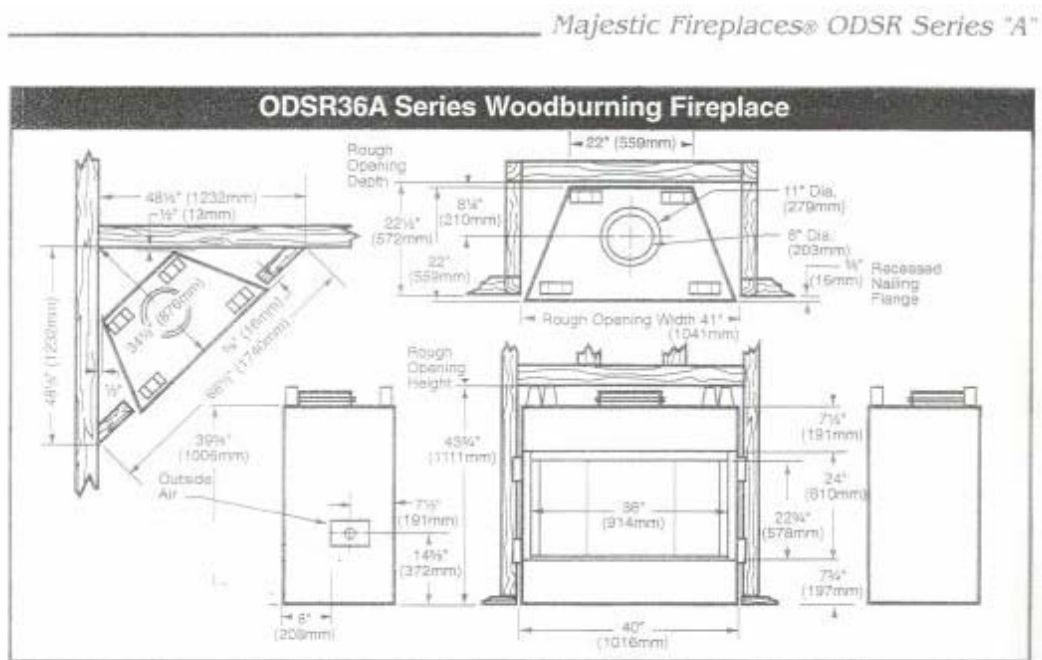
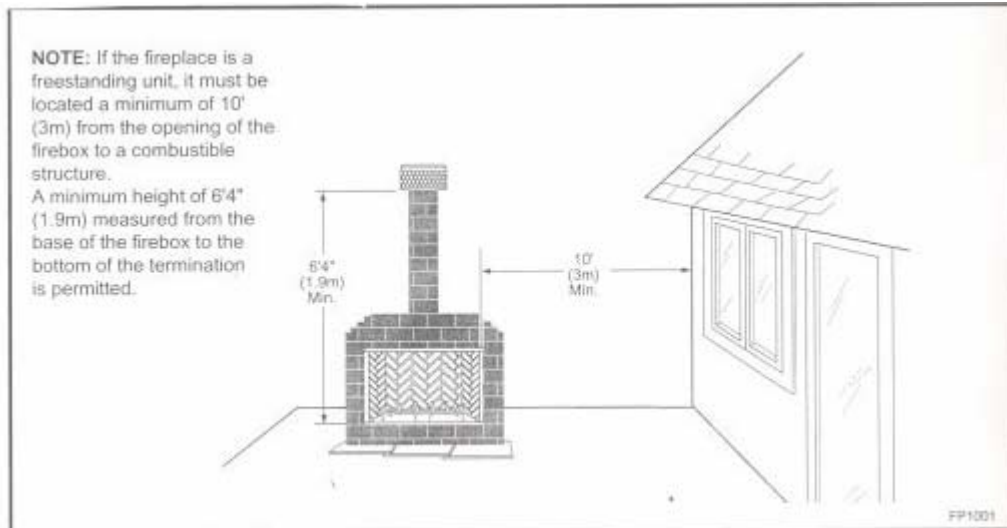

Fig 1 Specifications & Framing layout
Fig 2 Free standing installation
Select the location for the appliance. This appliance must not be installed inside minimum clearances to the house and any combustibles materials as shown in Fig 1 & Fig 2
**Option 1** Framing can be constructed before or after the fire place is set in place, however most installers build the frame prior to fitting the fire place in position Framing the fire place with 50 x 100 mm timber or heavier. Refer to Fig 1 for framing dimensions.